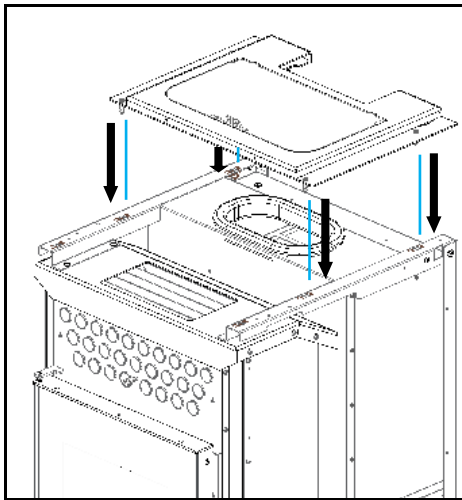

Figure 98 – Top cover placement
a) Fit the top plate as shown in Figure 98. To ensure that the top is properly seated, it contains four pins on the bottom that should fit the springs in the frame.